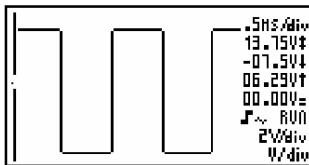

Fig 8.0
- Changing the timebase or sensitivity switches the autorange mode immediately off. **(Fig 8.0)**
Autorange off (Fig. 8.0) :